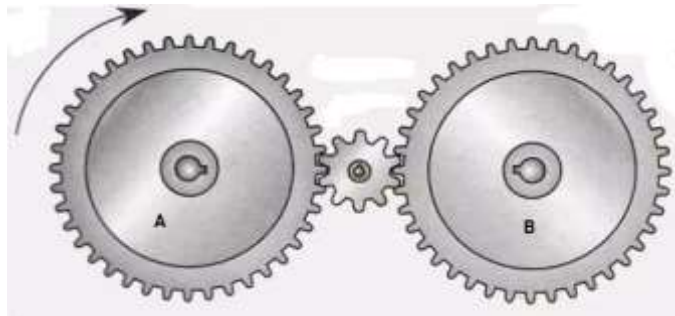

Figure 1
1.1 Copy figure 1 and draw an arrow on your diagram to the direction of rotation of Gear B if Gear A is the driver.